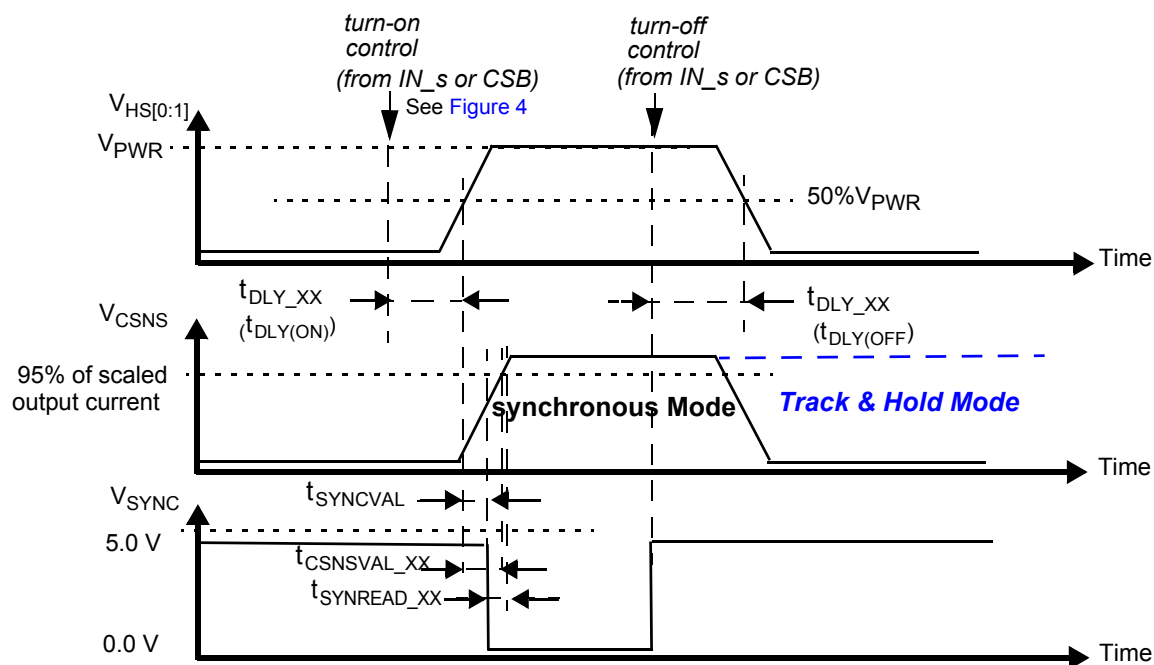

Figure 9. Synchronous & Track-and-Hold Current Sensing Modes: Associated Delay & Settling Times
29. Time required to switch off the channel after detection of overtemperature (OT), overcurrent (OC), SC or UV error (time measured between start of the negative edge on the FSB pin and the falling edge on the output voltage until $V(\text{HS}[0:1]) = 50\%$ of V_{PWR}).
30. Settling time ($= t_{CSNSVAL_XX}$), SYNC output signal delay ($= t_{SYNVAL_XX}$) and Read-out delay ($= t_{SYNREAD_XX}$) are defined for a stepped load current using a $10\text{ }\Omega$ resistive load for $\text{CSNS_RATIO}_s = 0$. (see Figure 9 and Output Current Monitoring \(CSNS\)).
The CS pin allows independent current monitoring of channel 0 or channel 1 up to the steady-state overcurrent threshold. It can also be used to sense the device temperature. The different functions are selected by setting bits CSNS1_en and CSNS0_en to the appropriate value (Table 22). When the CSNS pin is sensed during switch-off in the (optional) track & hold mode (see Figure 9), it outputs the scaled value of the load current as it was just before turn-Off. When several devices share the same pull-down resistor, the CSNS pins of devices the current of which is not monitored must be tri-stated. This is accomplished by setting CSNS0_en = 0 and CSNS1_en = 0 in the GCR register (Table 9). Settling time ($t_{CSNSVAL_XX}$) is defined as the time between the instant at the middle of the output voltage's rising edge ($HS[0:1] = 50\%$ of V_{PWR}), and the instant at which the voltage on the CSNS-pin has settled to $\pm 5.0\%$ of its final value. Anytime an overcurrent window is active, the CSNS pin is disabled (see Overcurrent Detection on Resistive and Inductive Loads). The current and temperature sensing functions are unavailable in Fail-safe mode and in Normal mode when operating without the V_{DD} supply voltage. In order to generate a voltage output, a pull-down resistor is required ($R(CSNS)=1.0\text{ k}\Omega$ typ. and $470 < R(CSNS) < 10\text{ k}\Omega$). When the current sense resistor connected to the CSNS pin is disconnected, the CSNS voltage is clamped to $V_{CL(CSNS)}$. The CSNS pin can source currents up to about 5.6 mA.
To synchronize current sensing with an external process, the SYNC signal can be connected to a digital input of an external MCU. SYNC is asserted logic low when the current sense signal is accurate and ready to be read. The current sense signal on the CSNS pin has the specified accuracy $t_{SYNCREAD_XX}$ seconds after the falling edge on the SYNC pin (Figure 9) and remains valid until a rising edge is generated. The rising edge that is generated by the SYNC pin at the turn-OFF instant (internal or external) may also be used to implement synchronization with the external MCU. Parameter $t_{SYNCVAL_XX}$ is defined as the time between the instant at the middle of the output-voltage rising edge ($HS[0:1] = 50\%$ of $VPWR$), and the instant at which the voltage on the SYNC-pin drops below 0.4 V (V_{SOL}). The SYNC pins of different devices can be connected together to save μ -controller input channels. However, in this configuration, the CSNS function of only one device should be active at a time. Otherwise, the MCU does not determine the origin of the SYNC signal. The SYNC pin is open drain and requires an external pull-up resistor to V_{DD} .